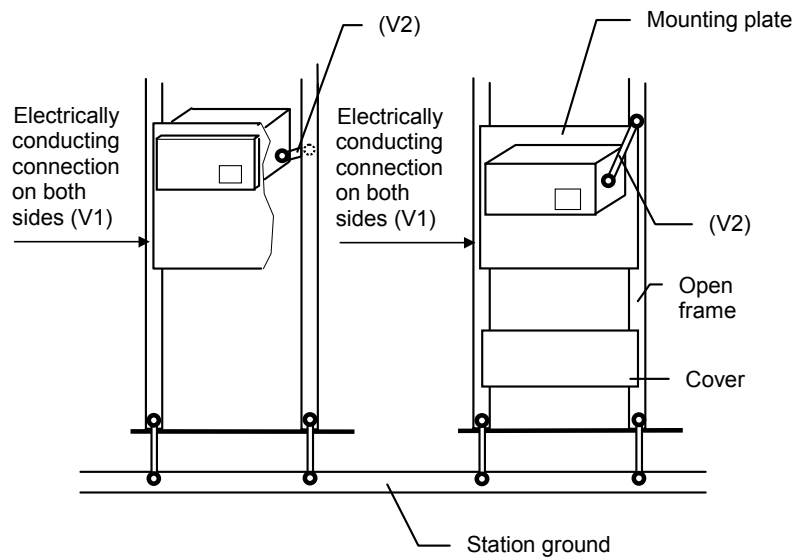
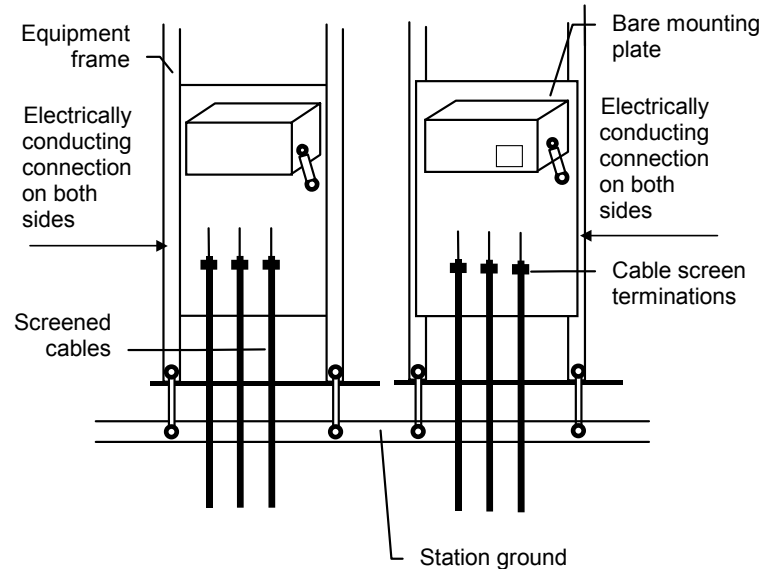

Figure 6.2 Methods of grounding units in open frames (front view, semi-flush and surface mounting)
Figure 6.6 Cable screen terminations in open equipment frames (rear view for semi-flush mounting, front view for surface mounting)
An open frame must be electrically conducting, corrosion-proof and properly connected to the station ground (see Figure 6.2).
Device grounding version 1 (V1 see Figure 6.2)
Device grounding version 2 (V2 see Figure 6.2)
The units must be grounded directly to the rack frame as shown in Figure 6.2, if the contact surfaces are poor conductors, or to the mounting plate, as shown in Figure 6.6 in Section 6.5.3.1, providing the surfaces are good conductors, as defined under Version 1. The units must be grounded such that the grounding strips are as short as possible.
6. Fit the cable clamp between the end of the plastic sheath and the contact spiral. This effectively grounds the cable screen to the ground rail or the station ground (see Figure 6.6)
Screens in the case of open frames are also secured by a clamp to the mounting plate close to the device as shown in Figure 6.6.